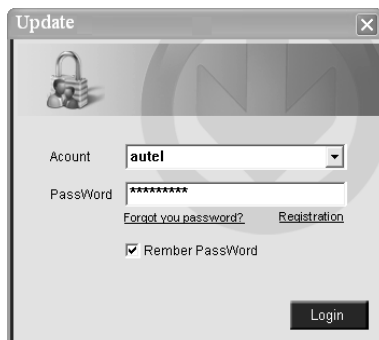

Figure 5.3
4. Run the update option in **PC Suit** software. Wait for the Log In window to pop up. (Figure 5.3)